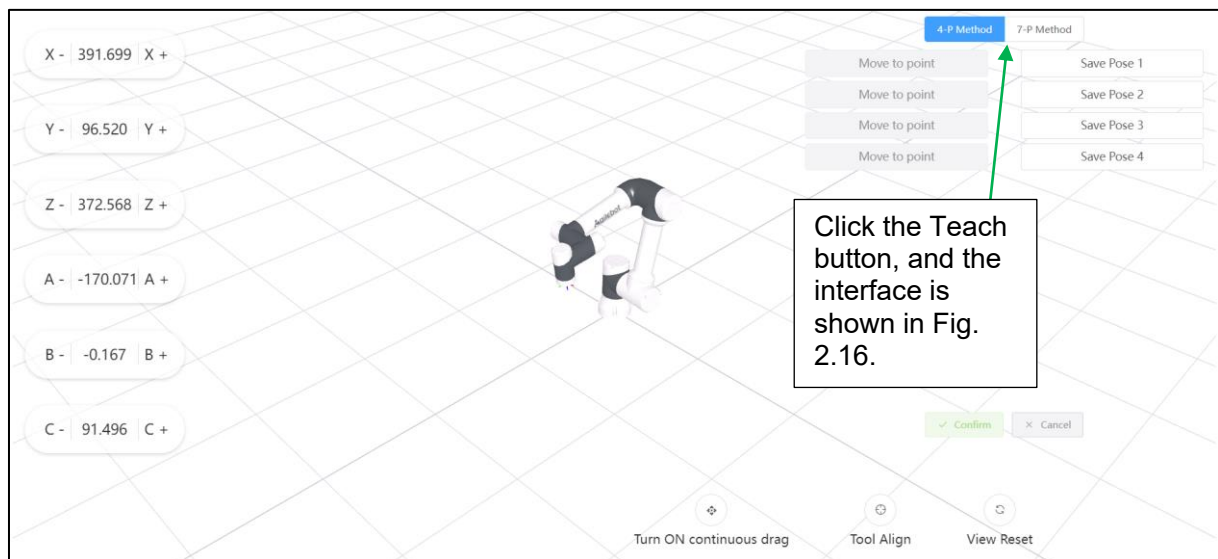

Fig. 2.14 Tool Coordinate System Setting Interface 3
2. Click "Teach" the interface is shown in Fig. 2.14.